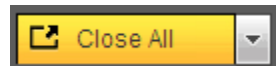

Figure 7-4
- z Section 2: There are channel number and one button: Start all. Start all button is to enable/disable all-channel real-time monitor. Click it the button becomes yellow. See Figure 7-4.